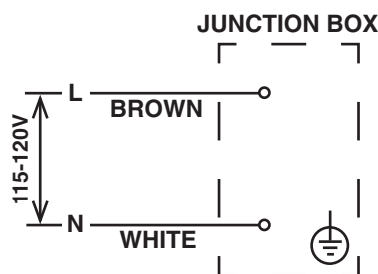

Fig. 2
4. Electrical connection must be made in accordance with the instructions on the "WARNING" tag, provided with the pig tail leads in the junction box. See Fig. 2.
CAUTION! Miswiring may result in severe damage to the icemaker. See Fig. 2.